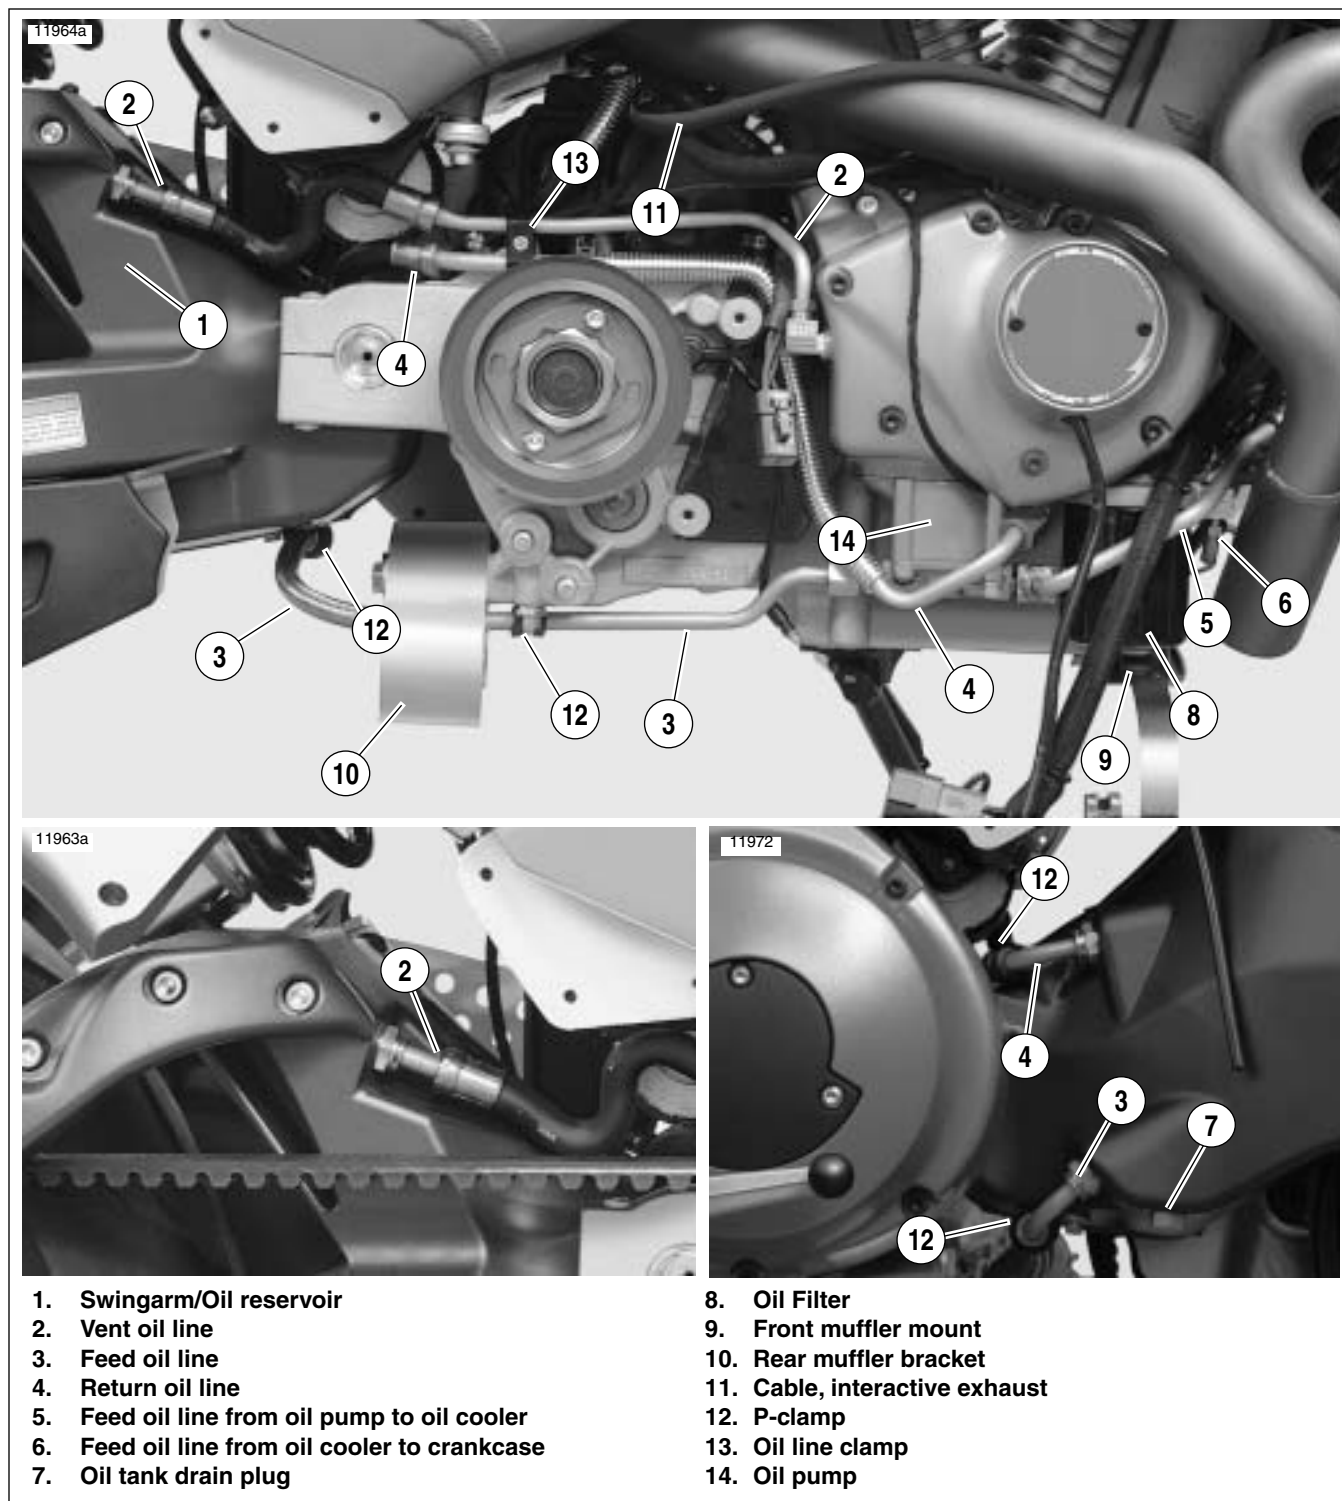

Figure 3-17. Oil Lines and Connections
17. See Figure 3-17. Remove oil filter (8).
22. See Figure 3-17. Remove vent oil line (2).
- a. Disconnect vent oil line (2) at gearcase cover.
- b. Remove clamp (13) in front of starter securing vent oil line to return oil line.
- c. Disconnect vent oil line at swingarm/oil reservoir (1) and remove. See 3.10 OIL LINE FITTINGS/ REMOVAL.
23. See Figure 3-17. Remove feed oil line (3).
- a. Loosen fitting at oil pump (14).
- b. Remove two p-clamps (12) from feed oil line (one on crankcase and one on swingarm/oil reservoir).
- c. Remove feed oil line (3) at oil pump (14).
25. See Figure 3-17. Remove return oil line (4).
- b. See Figure 3-17. Loosen fitting at oil pump (14).
- c. Remove p-clamp (12) at swingarm/oil reservoir (1).
- d. Disconnect oil return line (4) at swingarm/oil reservoir (1). See 3.10 OIL LINE FITTINGS/ REMOVAL.
- e. Disconnect oil return line (4) at oil pump (14) and remove.